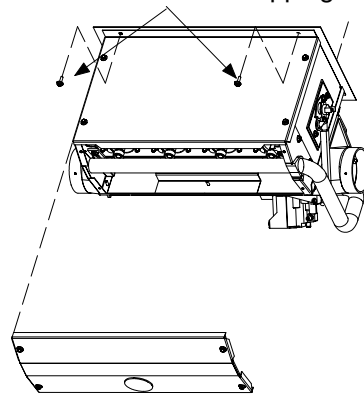

FIGURE 49
- 7 - Remove burner box cover and remove four burner box screws at the vestibule panel and remove burner box. Set burner box assembly aside. G61MPV-135 only - Remove and discard two additional shipping screws. See figure 49.
- 5 - Remove burner box cover and remove four screws which secure burner box assembly to vest panel. Remove burner box from the unit. G61MPV-135 only - Remove and discard two additional shipping screws. See figure 49.